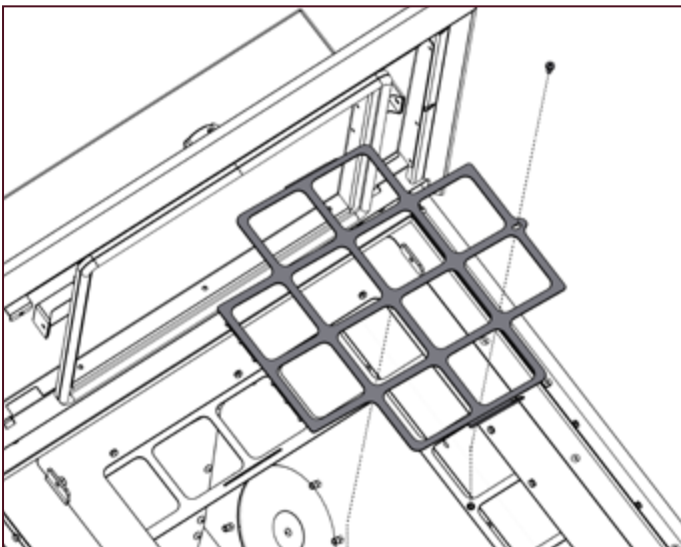

Figure 10-7: Removing the single fixing screw and grille
3. Remove the centre section of the grille inside the side pellet store. Undo the single fixing screw and lift the centre section away from the surrounding part of the grille. Refer to Figure 10-7.
16. Re-fit the centre section of the grille inside the side pellet store and secure with the single fixing screw previously removed. Refer to Figure 10-7.